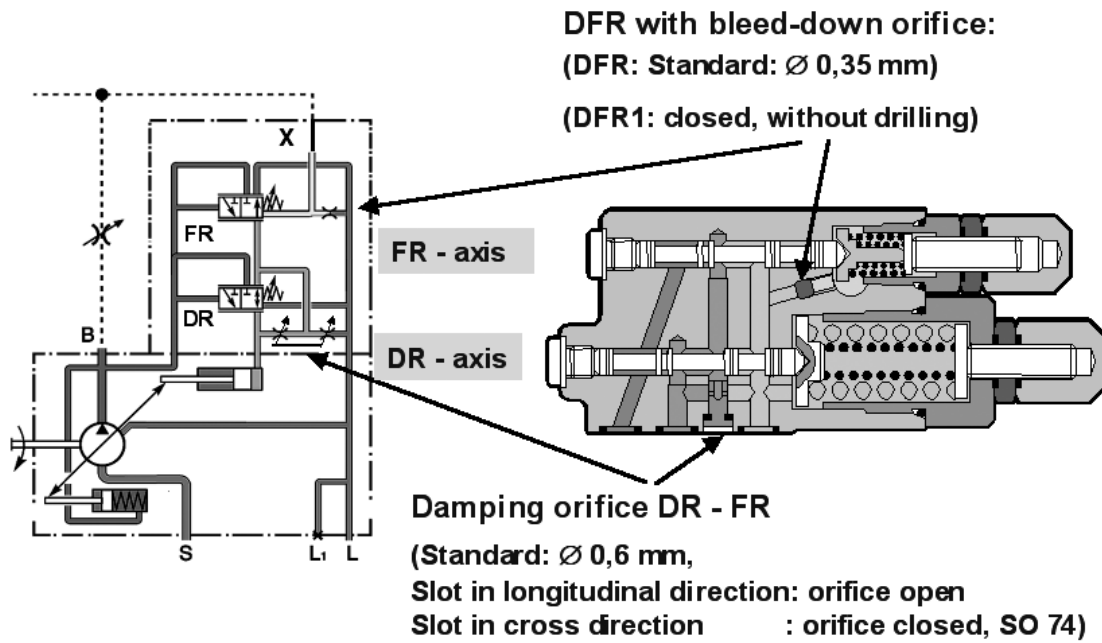

Figure 9
6. Locate allen head 2mm (orifice) inside housing (see Figure 9, next page)